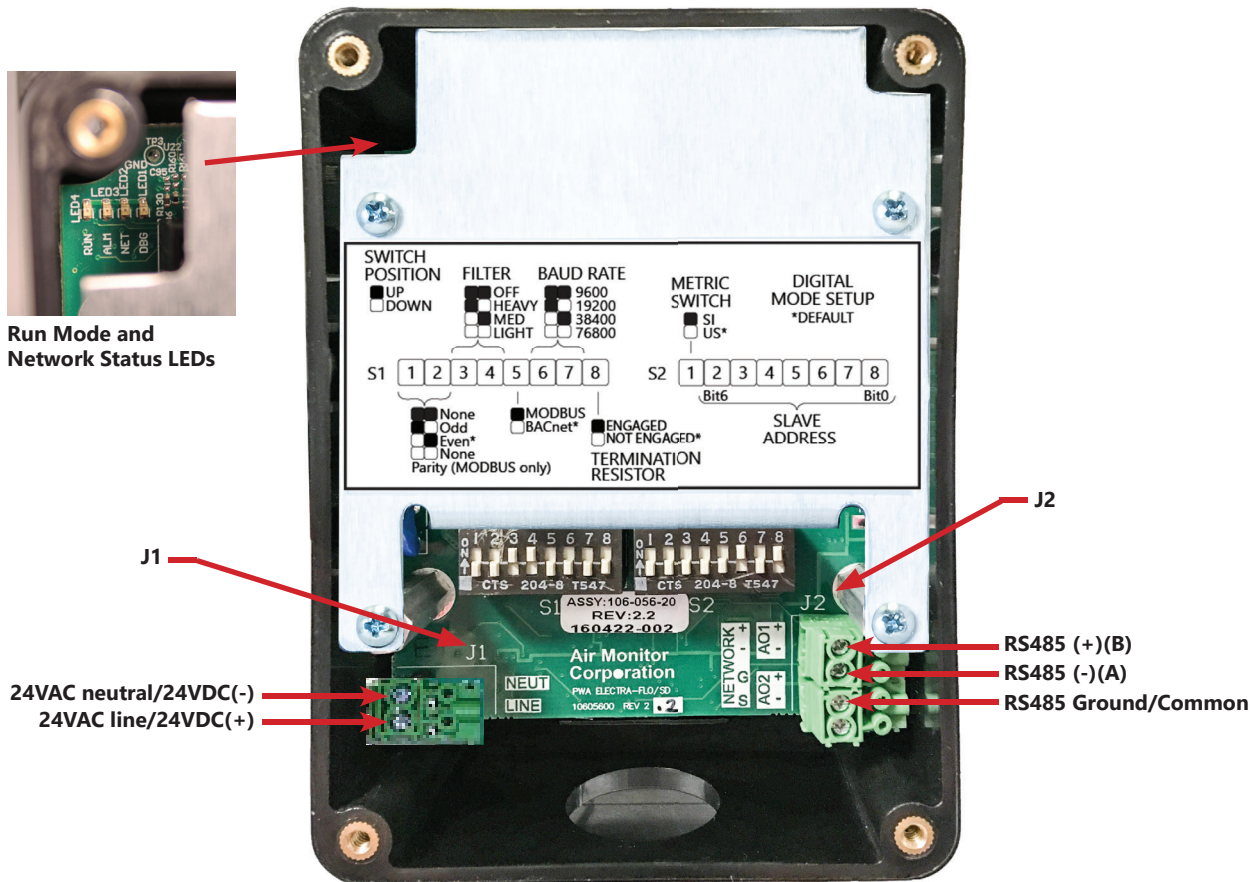

Figure 3
Power wiring is done at terminal strip J1, and RS485 signal wiring is done at terminal strip J2. Both terminal strips are located in the lower corners of the transmitter and are accessible by removing the enclosure cover. See Figure 3. One 1/2" conduit opening is provided in the bottom of the enclosure for power and signal wiring.
2. Observe the Run Mode indicator located in the upper left corner of the board. See Figure 3 on page 8. After a brief initialization period the Run Mode LED will begin blinking on/off in ½ second intervals indicating normal operation.